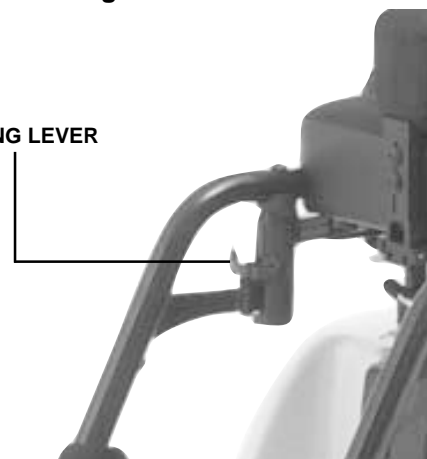

Figure 19. Removing the Swing-away Leg Rest
1. Press and hold the locking lever to unlock the leg rest. See figure 19.